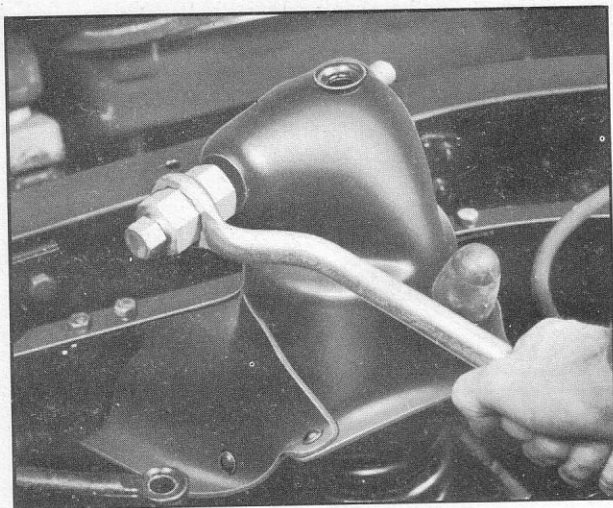
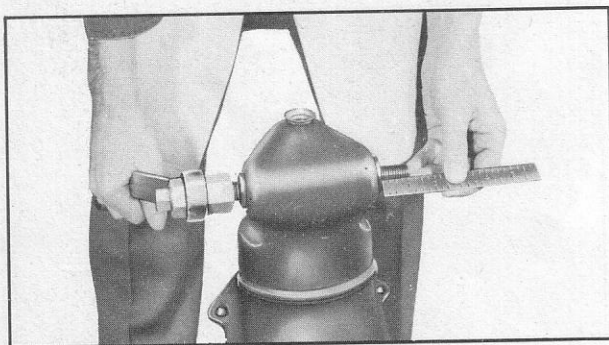

Fig. 21—Installing Upper Control Arm Shaft
Fig. 22—Locating Shaft in Spring Housing
2. Install new upper control arm shaft into spring housing from front to rear using Upper Control Arm Shaft Remover and Replacer J-2958 (fig. 21). Drive shaft into housing until end projects out back of spring housing  $1\frac{1}{8}$ " (fig. 22). Remove tool.
3. Remove pivot pin front and rear threaded bushings from upper control arm. The upper control arm and pivot pin in cross section is shown in Figure 22.